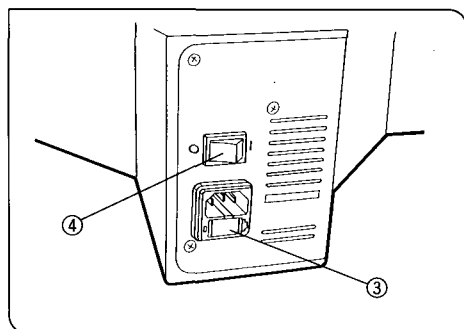

Fig. 3
4. To avoid potential shock hazards and burns, first set the main switch ④ to "○" (OFF) and then disconnect the power cord from the wall outlet before replacing the bulb and fuses ③. Whenever you replace the bulb during use or right after use, allow the lamp housing and bulb to cool before touching. (Fig. 3)